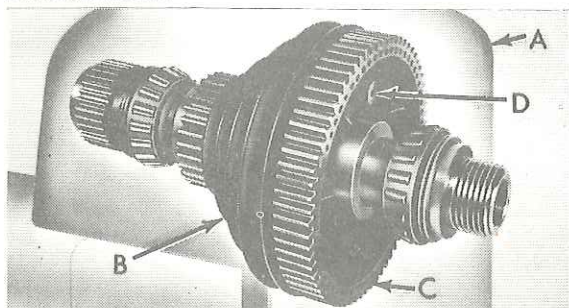

Figure 9
2. Raise headstock cover (A, Fig. 9) and pull out lock pin (D), disengaging bull gear (C) from pulley (B).
2. Raise headstock cover (A, Fig. 9). Push on lock pin (D), and turn spindle pulley by hand until pin slides in, locking bull gear and pulley together.